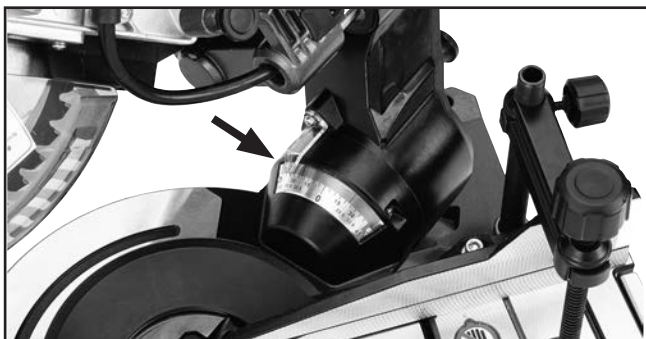

Figure 84. Left set screw location.
6. Turn left set screw (see **Figure 84**) until 45° (or other desired angle) is achieved.